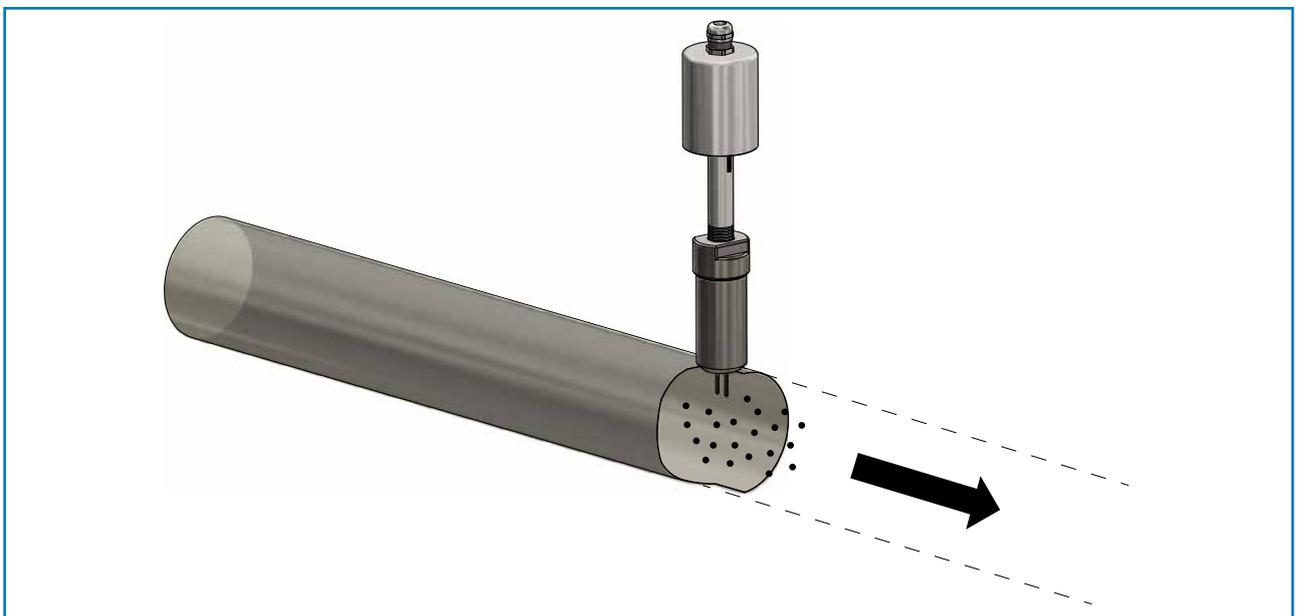

Fig. 3: SpeedFlow 2.0 sensor in the pipeline
- Ensure that the measurement point is an adequate distance from valves, manifolds, blowers and bucket wheel feeders and other measurement ports such as those for pressure and temperature sensors, etc. (See Fig. 3)